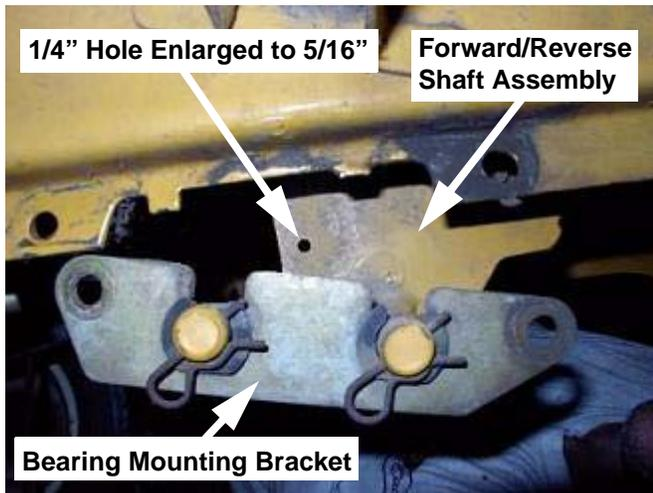

FIGURE 4
12. Use a 5/16" drill bit and electric drill to enlarge the 1/4" hole in the forward/reverse shaft assembly/clutch cam. See Figure 4. **NOTE: Be-careful not to come into contact with any other parts with the drill bit while drilling the hole.**